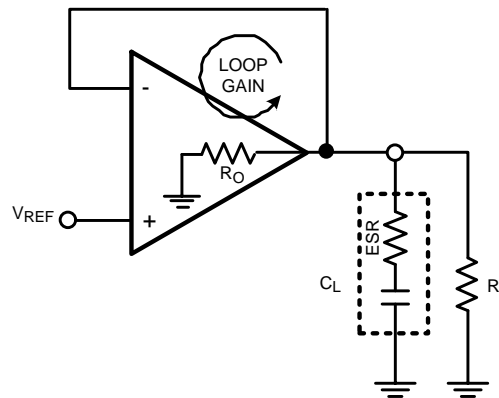

Figure 16. Simplified Model of Regulator Loop Gain Components
Figure 16 shows a basic model for the linear regulator that helps describe what happens to the output signal as it is processed through its feedback loop; that is, describe its loop gain (LG). The LG includes two main transfer functions: the error amplifier and the load. The error amplifier provides voltage gain and a dominant pole, while the load provides a zero and a pole. The LG of the model in Figure 16 is described by Equation 7: